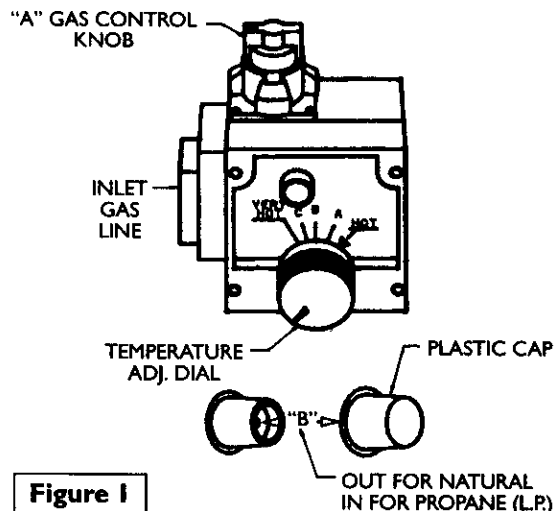

Figure 1
- Step 1. Turn gas control knob "A" to "PILOT". Depress and turn "OFF". (See Figure 1, page 17).
- Step 8. Place screwdriver in slot "B". (See Figure 1, page 17). Depress and turn counter-clockwise (↺) to stop. Control screw must be in "IN" position for propane (L.P.) gas and in "OUT" position for natural gas. STOP! Read label "For Your Safety" located on your water heater.
- Step 11. Wait five (5) minutes to clear out any gas. If you then smell gas, STOP! Follow "B" in the safety information on "For Your Safety" label. If you don't smell gas, go to the next step.
- Step 16. Make sure temperature adjustment dial is turned clockwise (↻) in its lowest position (See Figure 1, page 17).
To convert from Propane (L.P.) gas to Natural gas, follow the "Fuel" Conversion Instructions From the "Natural Gas to Propane (L.P.) Gas" section except in Step 5, use orifice "E", marked "NAT.". In Step 6 use pilot orifice "G", brass color and in Step 8 turn control screw "B" in Figure 1 clockwise (↻) to stop. Screw must be in "OUT" position for Natural gas.